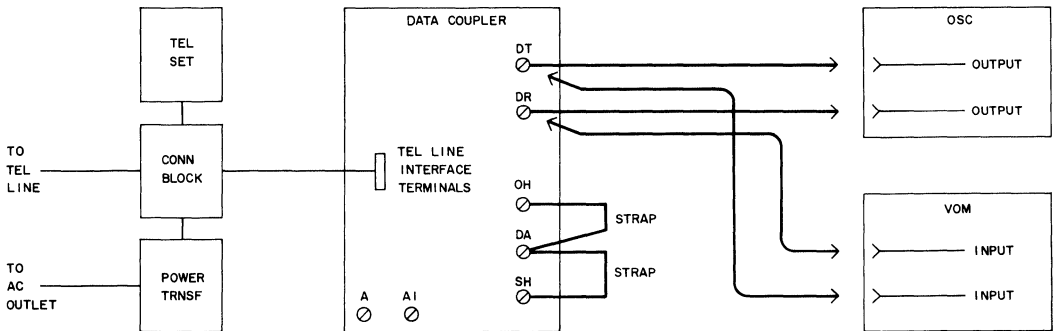

Fig. 18—Test Equipment Connections—Impedance Matching Test
- (1) Set the oscillator for a 1000-Hz frequency and a 600-ohm output impedance.
- (2) Select the proper scale on the VOM to measure -5 dBm.
- (3) Connect the test equipment and straps as shown in Fig. 18.
- (4) Adjust the oscillator output level to obtain a -5 dBm indication on the VOM.